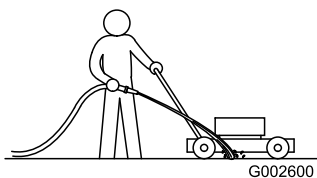

Figure 17
1. With the engine running on a flat paved surface, spray a stream of water in front of the **right** rear wheel (Figure 17).